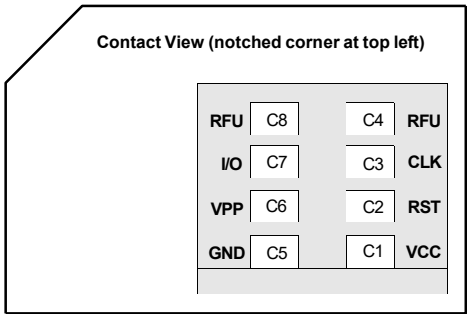

Figure 2-6: SIM Card Contacts (Contact View)
a. See Figure 2-6 on page 28 for SIM card contacts.